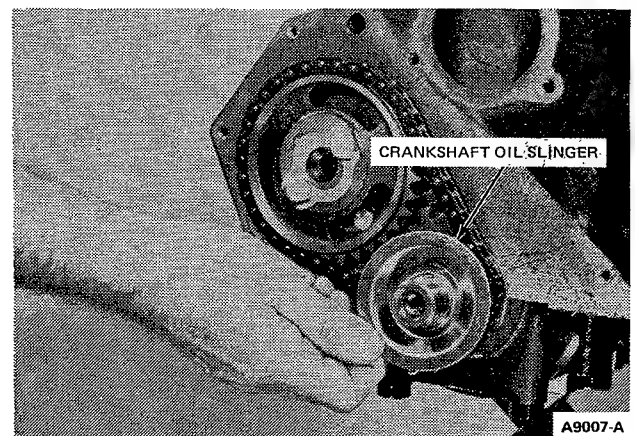

FIG. 41 Crankshaft Oil Slinger
7. Slide the oil slinger off the shaft (Figure 41). Remove the timing chain tensioner and timing chain, then remove the crankshaft sprocket from the crankshaft with Tool No. T64P-3590-F.